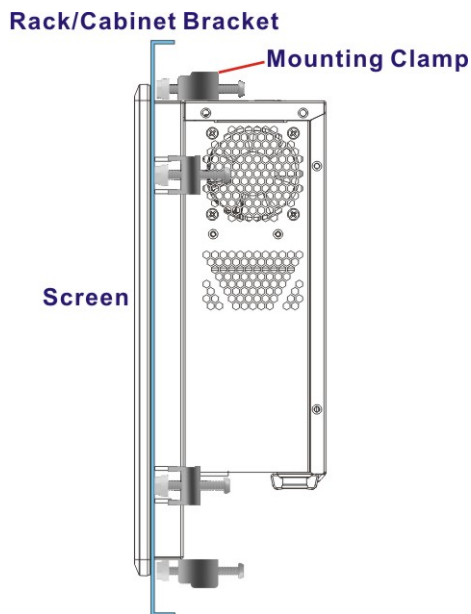

Figure 3-24: Secure the Rack/Cabinet Bracket
- Step 2:** Insert the mounting clamps into the mounting brackets and pre-formed holes along the edges of the front panel, behind the frame (**Figure 3-24**). The required number of mounting clamps may vary by models.
- Step 3:** Tighten the screws that pass through the mounting clamps until the plastic caps at the front of all the screws are firmly secured to the bracket (**Figure 3-24**).